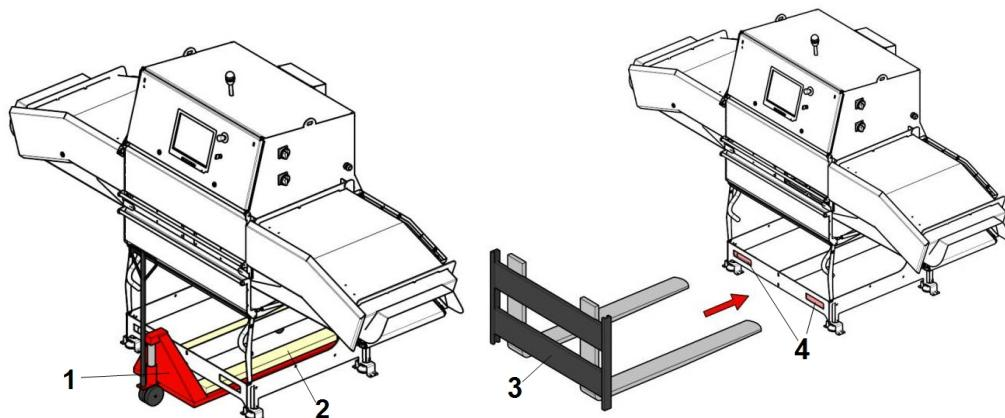

Figure 3 Transporting the SensorX with a pallet jack and forklift
- If you use a forklift **3** or pallet jack **1** (Figure 3) for transportation, you should place logs **2** or other material on top of the forks in order to prevent corrosive scratches on the structural member. Always lift under the central construction.
- It is recommended to secure the SensorX on a forklift **3** when transporting the machine to a position on a higher level. To secure the machine on the forklift **3**, use the designated transportation holes **4** (Figure 3).